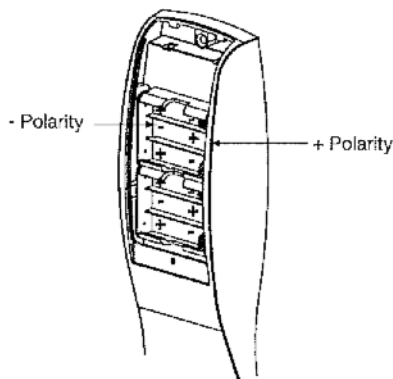

Fig. 2
1. Insert two #8-32 screws (Fig. 2) through top and bottom of inside escutcheon and thread into outside escutcheon. Straighten escutcheons and tighten securely, being careful to avoid pinching wires.
3. Place (6) "AA" batteries into the compartment being careful to align polarity properly (Ref. Fig. 2).